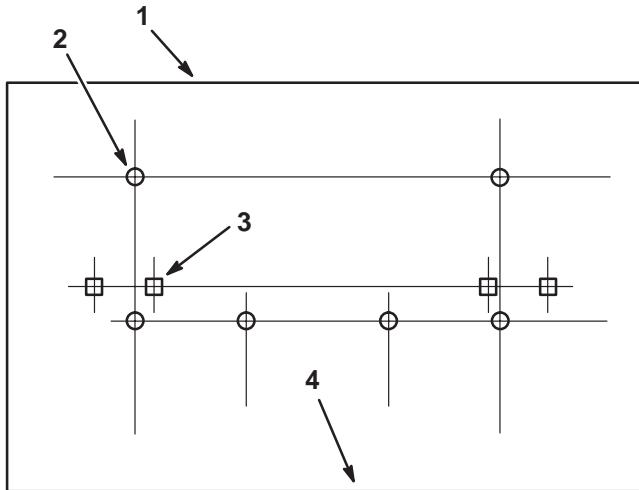

Figure 2
- Align the square holes in the drill template with the square holes in the deck. Mark and drill six (6) 11/32" holes in the top right-hand surface of the mower deck (Fig. 2).